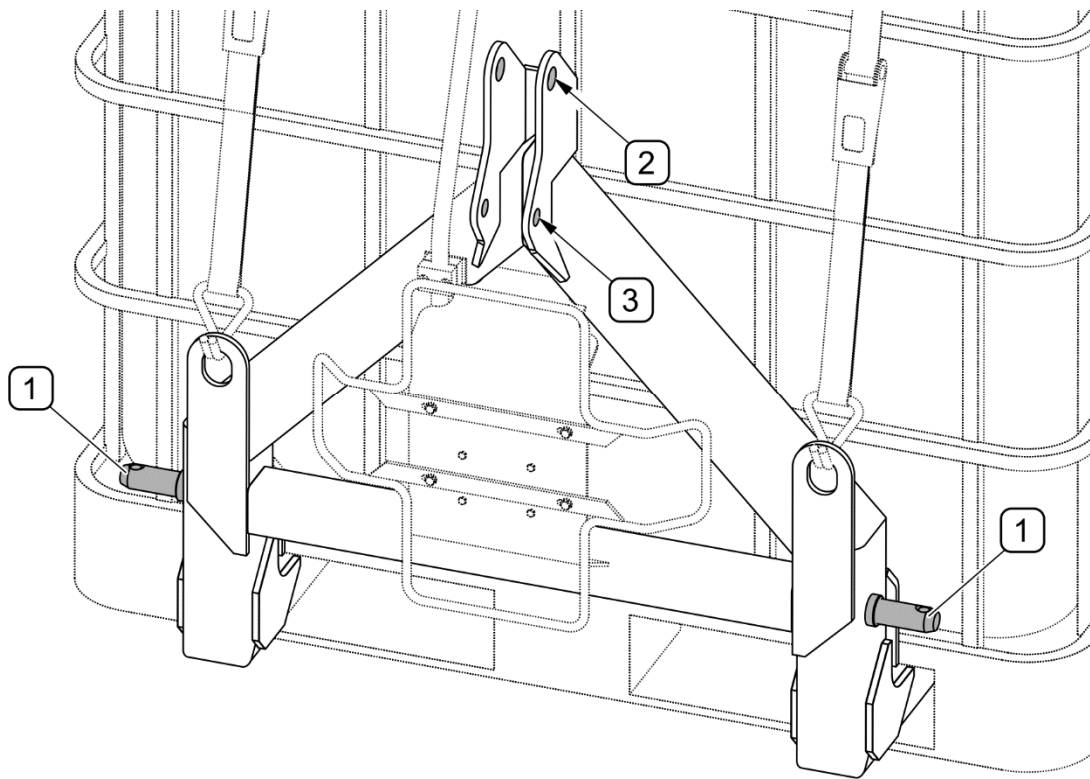

FIGURE 4.1 Hitching to tractor
In order to hitch the machine to the tractor (FIGURE 4.1)
- Reverse the tractor so as to move the lower links of the tractor's three-point linkage to the pins (1) of the machine linkage (FIGURE 4.1).
- Connect lower pins (1) of the machine linkage with lower links of the tractor's three-point linkage and secure.
- Using a pin, connect top link (so-called central connector) of the tractor's three-point linkage with attachment point (2) or (3) of the machine linkage and secure. Adjust stabilizers (tensioners) of the tractor linkage lower links so as to reduce lateral movement of the machine.